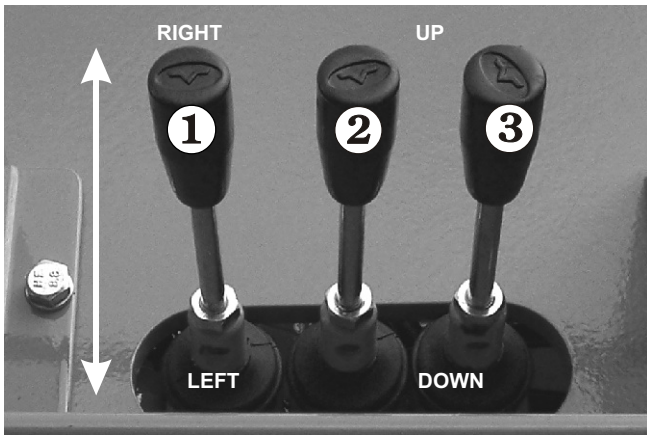

Figure 7.10 - Lower Boom Control Valve Levers
1. **Boom Control Valve Levers:** Mounted on the side of the column (see Figure 7.10) the functions of the valve levers are as follows:
- ① SLEW right or left
- ② Move the LOWER BOOM up or down
- ③ Move the UPPER BOOM up or down.